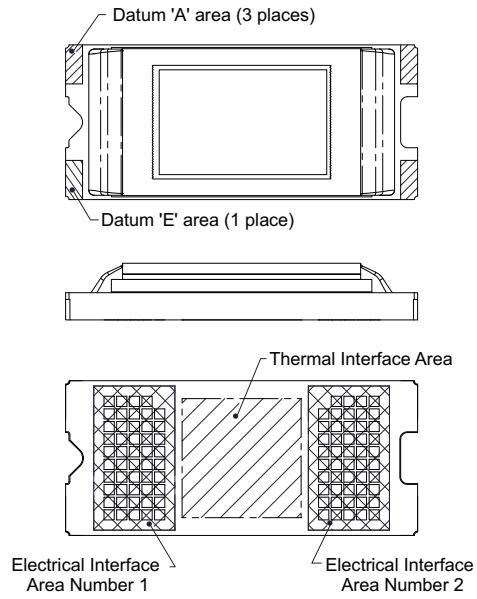

图 7-4. System Interface Loads for FQD
- (1) See 节 13 for diagrams.
- (2) See 图 7-4 for diagrams.
- (3) See Mounting Concepts DLP4500FQE.
- (4) See Mounting Concepts DLP4500FQD.